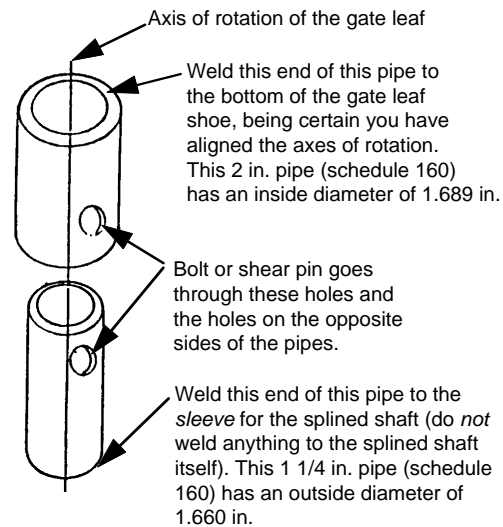

Figure 9. A sample shear-pin assembly
Note: If the vertical distance between the finished grade and the bottom of the gate leaf exceeds $1\frac{1}{4}$ in. (3.3 cm) as shown in Figure 5, you can install a shear-pin assembly as shown in Figure 9 and as discussed in "Installing the Gate Leaf Shoe."
- Construct a shear-pin assembly to accommodate the extra vertical distance. The assembly is welded to the bottom of the gate leaf shoe on one end and to the sleeve for the splined shaft of the pinion on the other end (see Figures 9 and 10). Such an assembly requires a bottom hinge and also protects the pinion and splined shaft in the event something hits the gate with great force.
Installing the gate leaf shoe involves making the gate leaf shoe, positioning it, and welding it to the splined shaft sleeve. If you are retrofitting the 750 Operator to an existing gate, these tasks require you to remove the gate leaf from its hinges. If you are using a shear-pin assembly, refer to Figures 9 and 10 to determine what you should weld together.